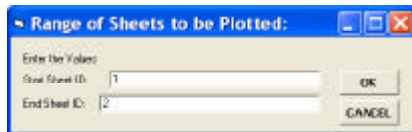

Figure 24 - Range Of Drawing Sheets
3. **Scroll** down the *Plot Entire Profile or Single Sheet*: data field, **select** the **Range of Sheets** option, and **click** at the **OK** button to display the multi-input dialog box of Figure 24.
- **Click** at the **OK** button to display the modified dialog of Figure 24.